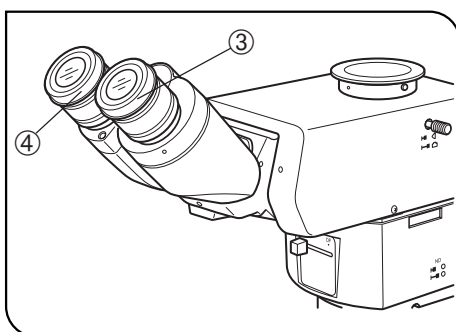

Fig. 18
3. Looking through the left eyepiece with your left eye, turn the top of the eyepiece ④ to bring the specimen into focus. (Fig. 18)